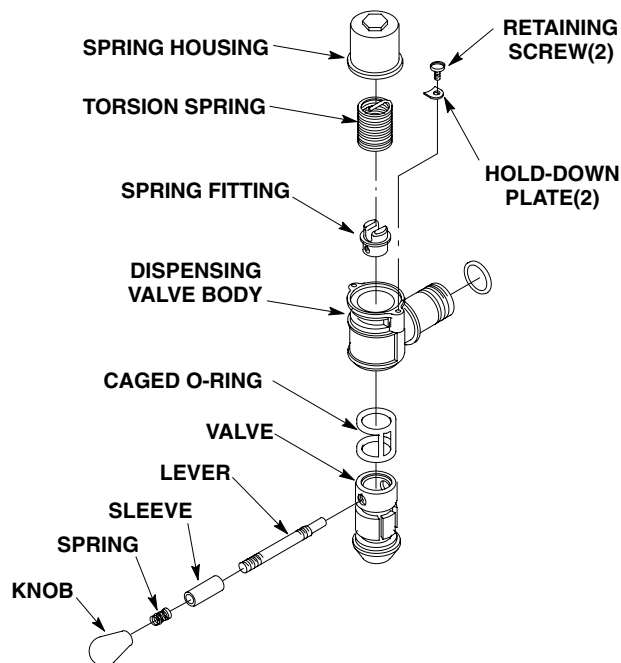

FIGURE 10. SELF-CLOSING DISPENSING VALVE
SERVICING DISPENSING VALVES CAGED O-RINGS. (see Figure 10)
3. Carefully remove large O-RING (item 5) from FACEPLATE (item 8).
4. Unscrew RELIEF VALVE (item 9) from FACEPLATE (item 8).
5. Disassemble dispensing valve (see Figure 10) as follows: